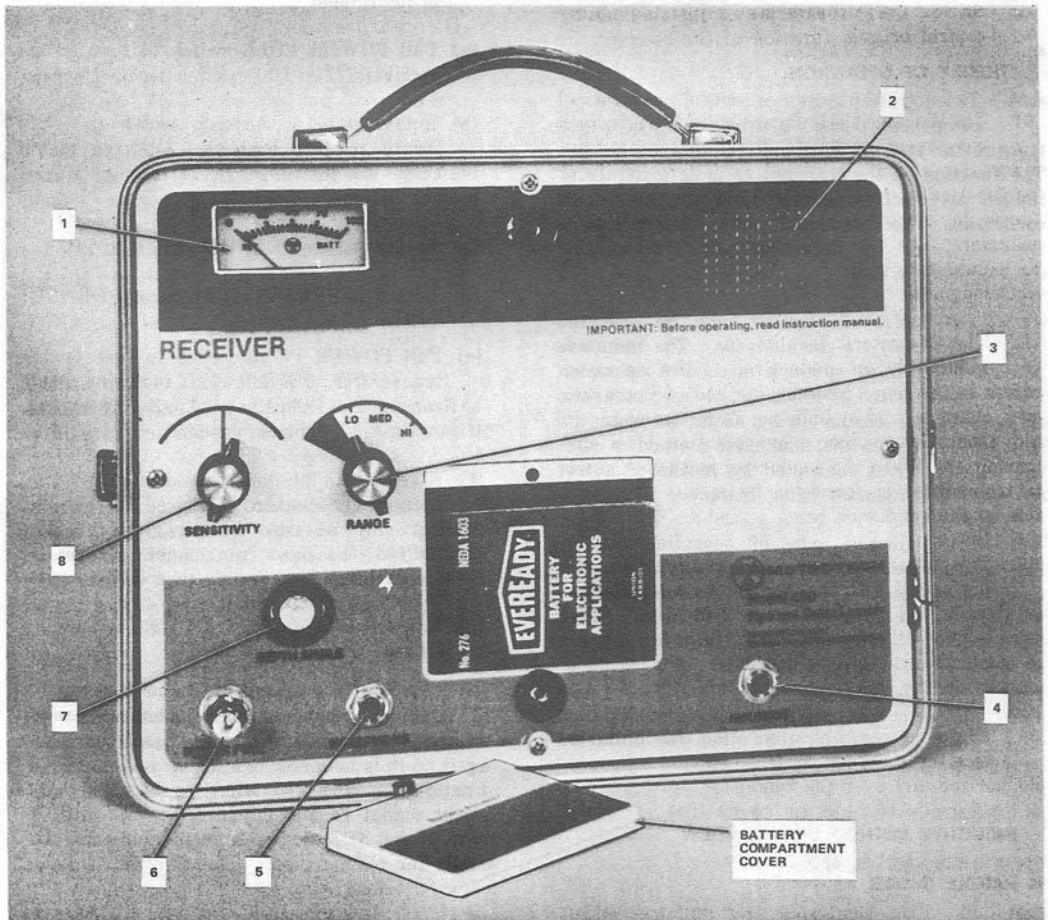

Fig. 3—Receiver
3.03 The battery powered radio-type receiver assembly (Fig. 3) detects the transmitter induced electromagnetic field. It is equipped with a tuned loop antenna, visual indicator, and a depth level which is used when making depth determinations, and the following controls and switches: